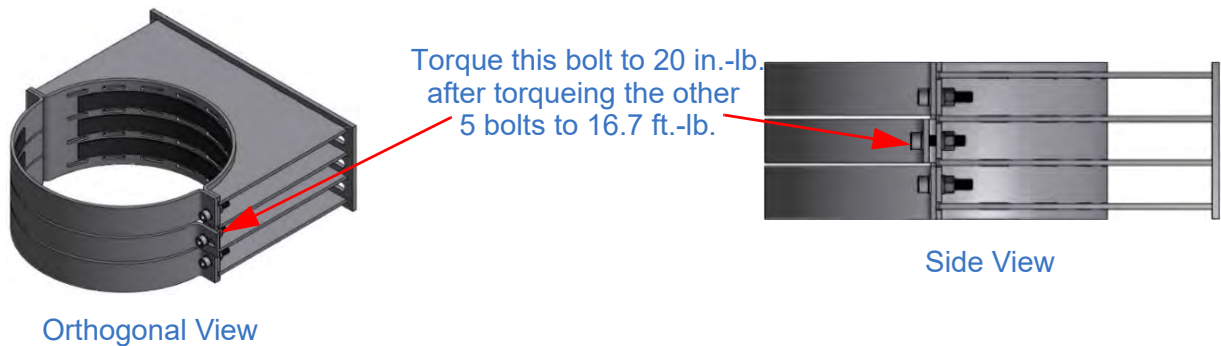

Figure 5-5 External Support Bracket P/N: 4894901 Installation
- P/N: 4894901: Torque the first five 3/8-16 bolts to 16.7 ft.-lb. (22 Nm) and final 3/8-16 bolt to 20 in.-lb. (2.2 Nm) (Figure 5-5). Only torque the final 3/8-16 bolt after torquing the first five bolts.